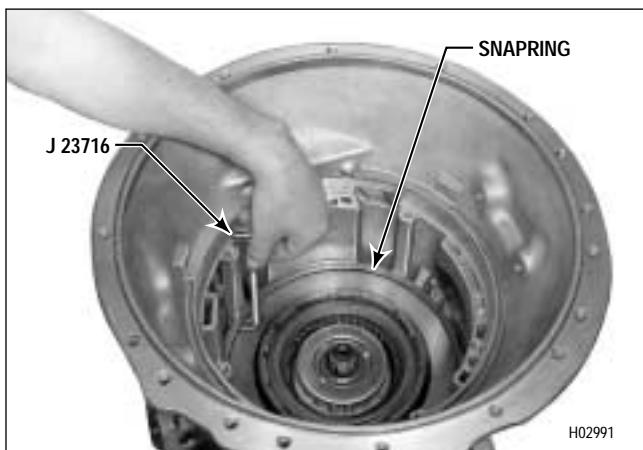
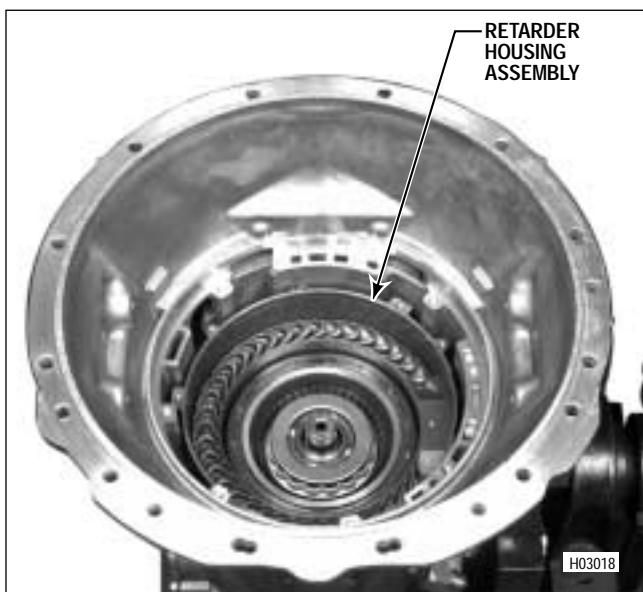

Figure 7-20. Checking Third Clutch Running Clearance (Models Without Retarder)
Figure 7-21. Installing Retarder Housing Assembly (Models With Retarder)
- For models without retarder, proceed with Step (2).
- For models with retarder, skip Steps (2) through (5) and proceed with Paragraph 7-7b.
(2) Install the third clutch backplate, aligning its tangs with those of the three clutch plates (Figure 7-20). For models prior to S/N 3210668026, this plate is identified by the Mark 4. For later models, there is a square stamped on a single external tang.
(3) Install the snapring that retains the backplate (Figure 7-20). The snapring is identified by a green mark and is 0.155–0.157 inch (3.94–3.99 mm) thick. The snapring gap must be at the 12 o'clock position (viewed from the front of the transmission housing), and must be fully seated in its groove.
(4) Using third clutch clearance gauge J 23716 (Figure 7-20), check the clutch running clearance. The thin end of the gauge should pass between the snapring and the backplate; the thick end should not. The running clearance is correct with a dimension of 0.028–0.119 inch (0.74–3.02 mm).
(5) If clearance is excessive (larger end of gauge enters plates), new clutch plates should replace worn plates. Refer to the wear limits in Section 8 for clutch plate dimensions.
(6) Skip Paragraph 7-7b and proceed with Paragraph 7-7c.
**b. Retarder Housing Assembly.** Install the retarder housing assembly, stator blades upward, aligning the oil jumper tube holes with the PTO opening in the transmission housing (Figure 7-21).